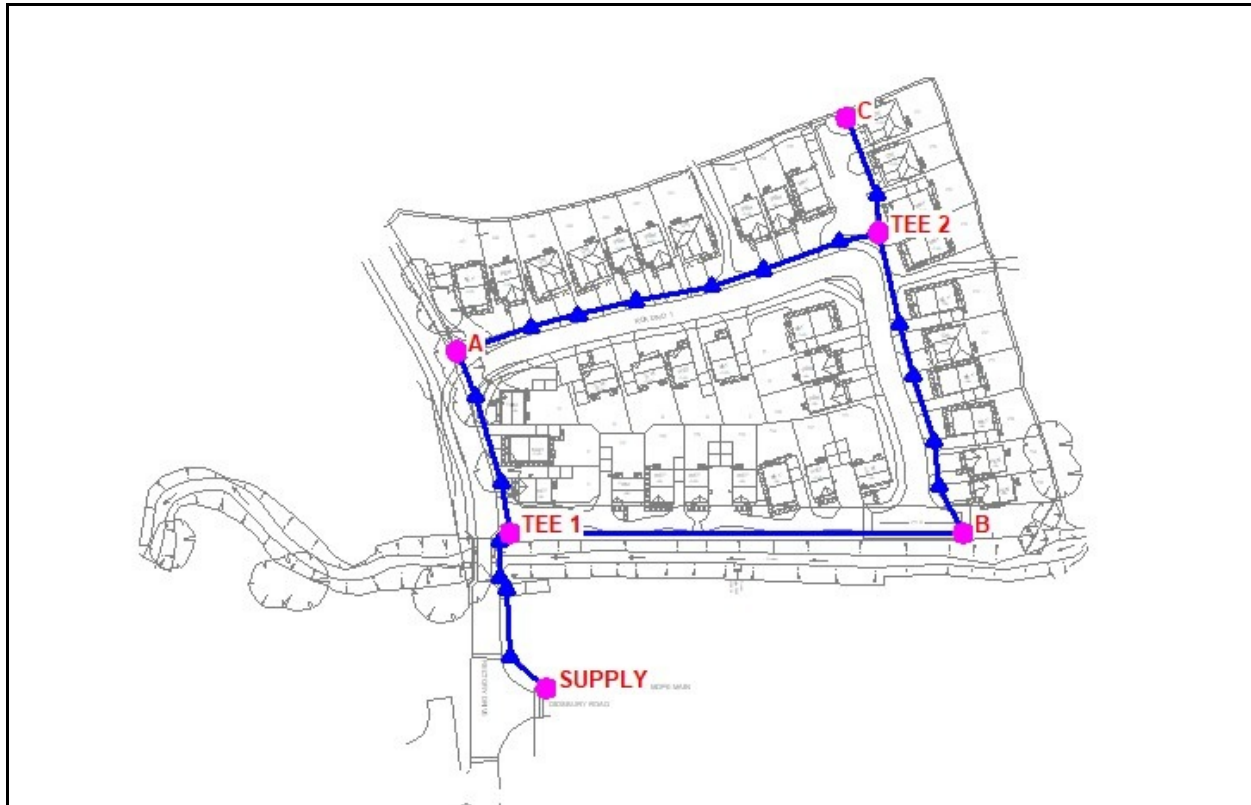

Figure 1
The main lines will be entered by tracing over a background image. In general, the final main line configuration should be similar to that in Figure 1. In Figure 1, the dots (solid circles) reflect node locations, and the triangle symbols reflect the vertex locations (pipe deflection points).
- For the *Next Vertex* prompts, draw the pipe lines by moving the mouse crosshairs to the appropriate deflection points and the *To Node Location*, then left-click the mouse (see Figure 1). After the *To Node Location* has been entered, right-click the mouse to end the drawing process.
- Add the remaining main line piping using the various *Graphic Construction*, *Zoom*, and *Pan* commands. Ensure the adjacent pipe ends are “snapped” together by turning “on” the Feature Snap. For now, use the default data values and settings for the remaining pipes and nodes, but change the node *Names* as displayed in Figure 1. The completed piping system should look similar to Figure 1.